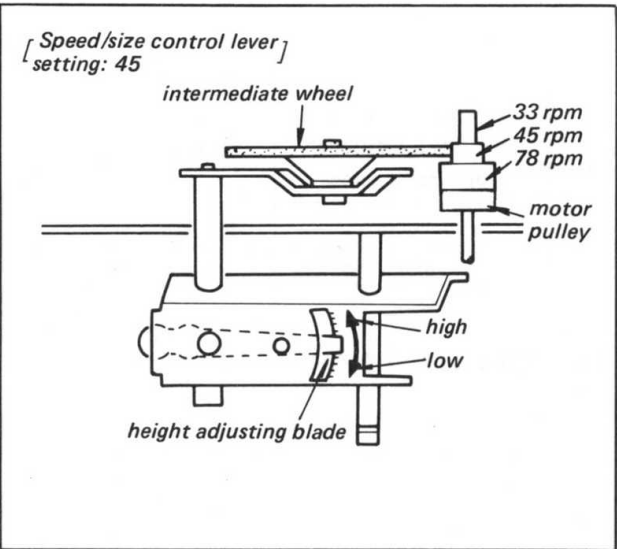

Fig. 2-4. Intermediate wheel height adjustment
- 1. Adjust the intermediate wheel height by means of the blade (See Fig. 2-4) so that the intermediate wheel runs in the center of the correct pulley step without rubbing the adjacent step.
- 2. If necessary, adjust intermediate wheel height by means of the blade shown in Fig. 2-4.